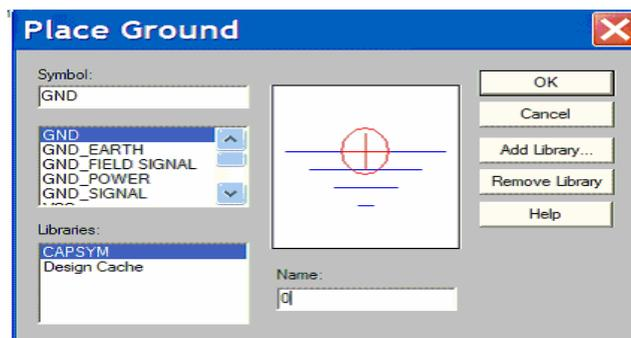

Figure 13
- Select the Place Ground button from the icon toolbar. Select “GND” from the list that is shown in figure13. You can give a name to it like “0”.